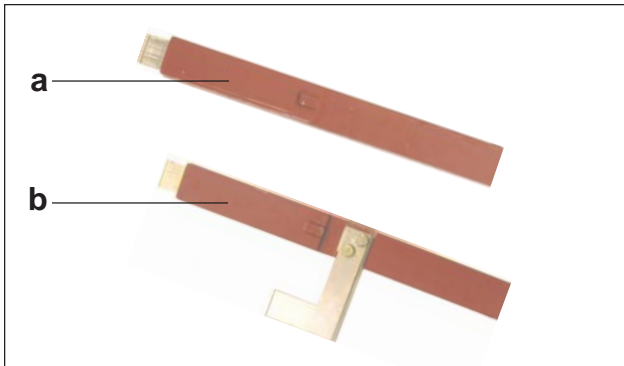

Figure 12. Test Probes
5. Remove the test probes from the test ports (Figure 11 and Figure 12).